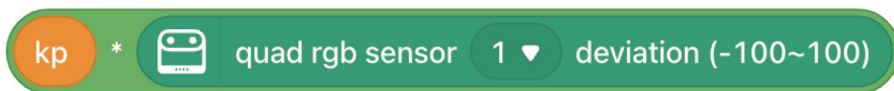

Figure 3-16. The blocks for *kp* * quad rgb sensor (1) deviation (-100~100)
Now, we are going to build the code for controlling the “left_power” variable, which is how fast the left wheel should go. You can see the blocks combined in Figure 3-16. Drag the multiplication box under Operators. Then find *kp* under Variables and put it in the first slot of the multiplication box. Then find the “quad rgb sensor (1) deviation (-100~100)” box under the “Quad RGB Sensor” tab and put it in the second slot. If you don’t see this box, then you need to get the “Quad RGB Sensor” extension as mentioned earlier.